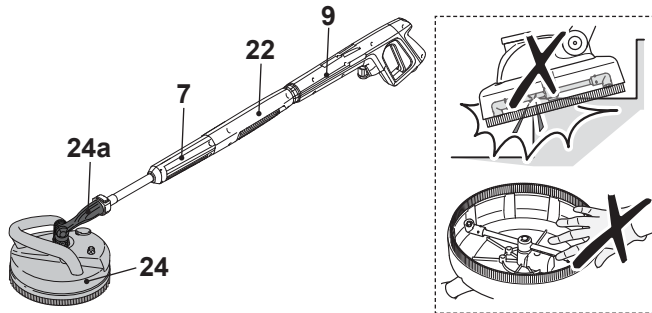

Fig. 12
4. Securely fit the short extension lance (22) by turning the sleeve (22b) clockwise (step 3).
5. Align and insert the tongues (7a) of the extension lance (7) into the grooves of the short extension lance (22) connection port (step 4).
6. Securely fit the extension lance (7) by turning it clockwise to lock it in place (step 5). Ensure the arrow on the short extension lance aligns with the arrow on the extension lance.
7. Attach the patio brush (24) onto the extension lance (7) (Fig. 12).